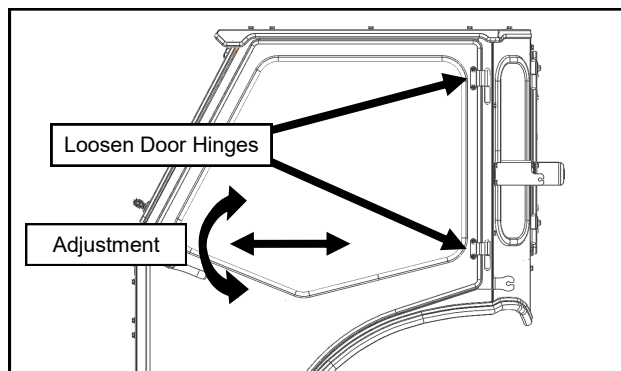

Fig. 18.3a (Door Hinge Adjustment)
- 18.3** Loosen the door hinges to allow for adjustment. While lifting up and forward on the door handle, line up the door latch with the striker pin and carefully attempt to latch. If the latch is too far forward or back to latch on the pin, adjust as shown, then retighten and latch. See figures 18.3a and b.